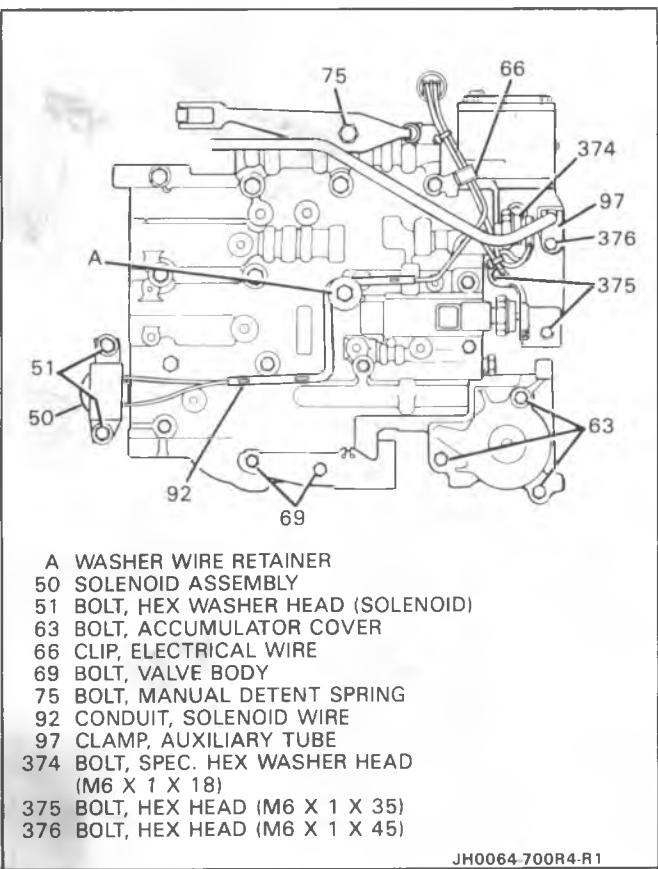

Figure 12 Valve Body Bolt Locations
1. Screws (74), oil pan (73), and gasket (72).
2. Oil filter (71) and filter seal (70).
3. Outside electrical connector (33) and o-ring seal (34).
5. Solenoid bolts (51) and solenoid assembly (50) with o-ring seal (49) and wiring harness.
6. Accumulator cover bolts (63) and 1-2 accumulator cover and pin assembly (62).
7. 1-2 accumulator piston (61) and seal (60).
8. Spring (59).
**Remove or Disconnect (Figures 12, 13, 14 and 15)**
1. Bolt (75) and manual detent spring assembly (709).
2. Electrical wire clips (66).
3. Auxiliary tube clamps (97) and auxiliary accumulator valve tube (96).
4. Wiring harness retaining washer (A).
5. Bolts (69) and T.V. lever and bracket assembly (65)
6. T.V. link (64)
**Remove or Disconnect (Figures 12, 14, 15 and 16)**
1. Remaining valve body bolts (69)
2. Manual valve link (705)
3. Control valve assembly (67)
4. Bolts (374-375), auxiliary valve body (377), and check ball (55B)
5. Spacer plate (56) and spacer plate gaskets (88 and 89)
6. Check balls (55A, 55C and 91) spring (54), piston (52), seal (53) and pin
- Three checkballs are located under the valve body, one in the auxiliary valve body and four are located in the case. The large copper flash colored ball is #10 check ball (91)